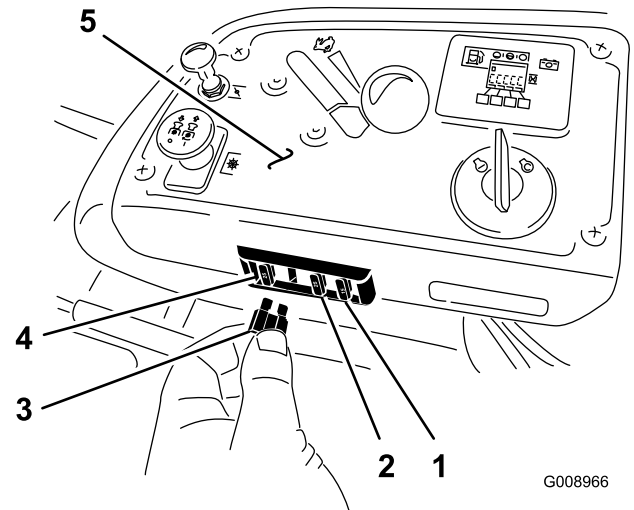

Figure 62
The fuses are located on the console to the right of the seat (Figure 62).
2. Install a new fuse (Figure 62).